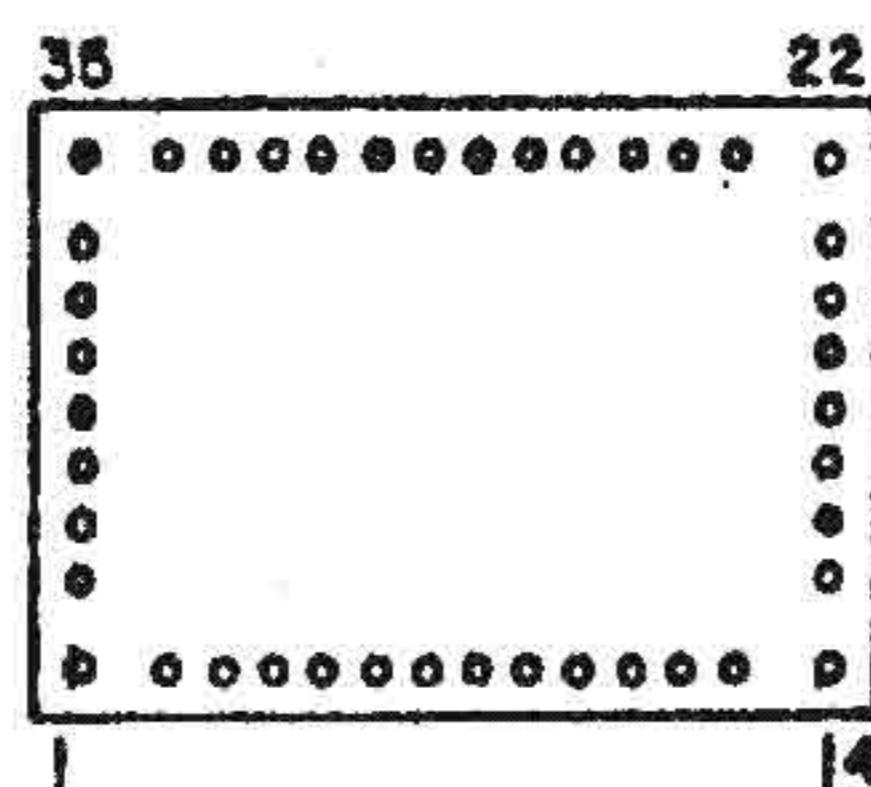

Fig. 2-39. Decoder A2, schematic circuit diagram
h. Decoder A2 (fig. 2-39). Refer to para c. for block diagram analysis.
(1) Decoder operation. The decoder A2 contains a custom LSI circuit, which decodes the frequency data. The decoder is activated when the TUNE line rises to a high level.